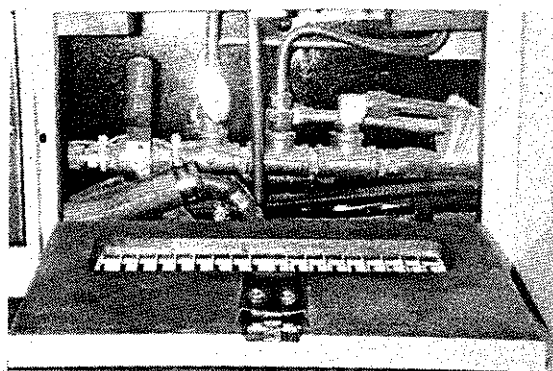
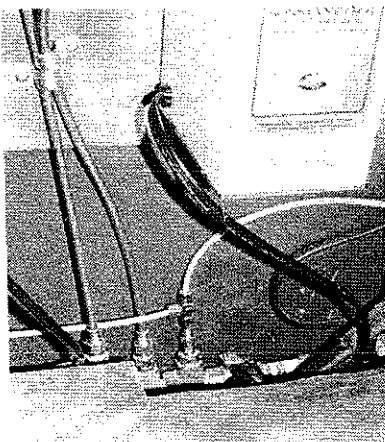

Figure 5-6. Lavatory Plumbing
Figure 5-7. Galley Sink Plumbing
3. Open the low-point drain valves located beneath the galley sink, figure 5-6, and the lavatory, figure 5-7.